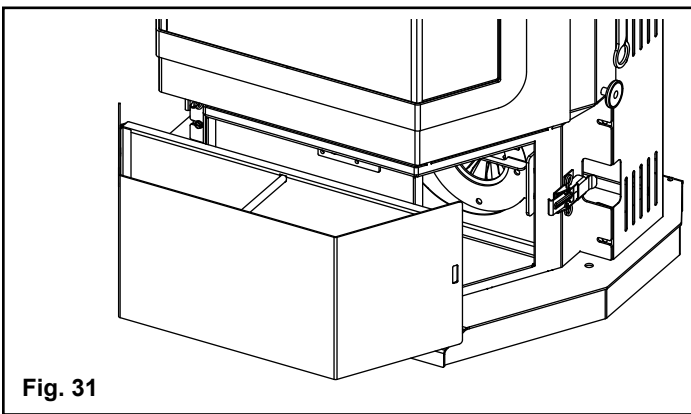

Fig. 31
3. Slide ash pan forward enough to lift with center handle. Empty ashes and reinstall ash pan. Fig. 31